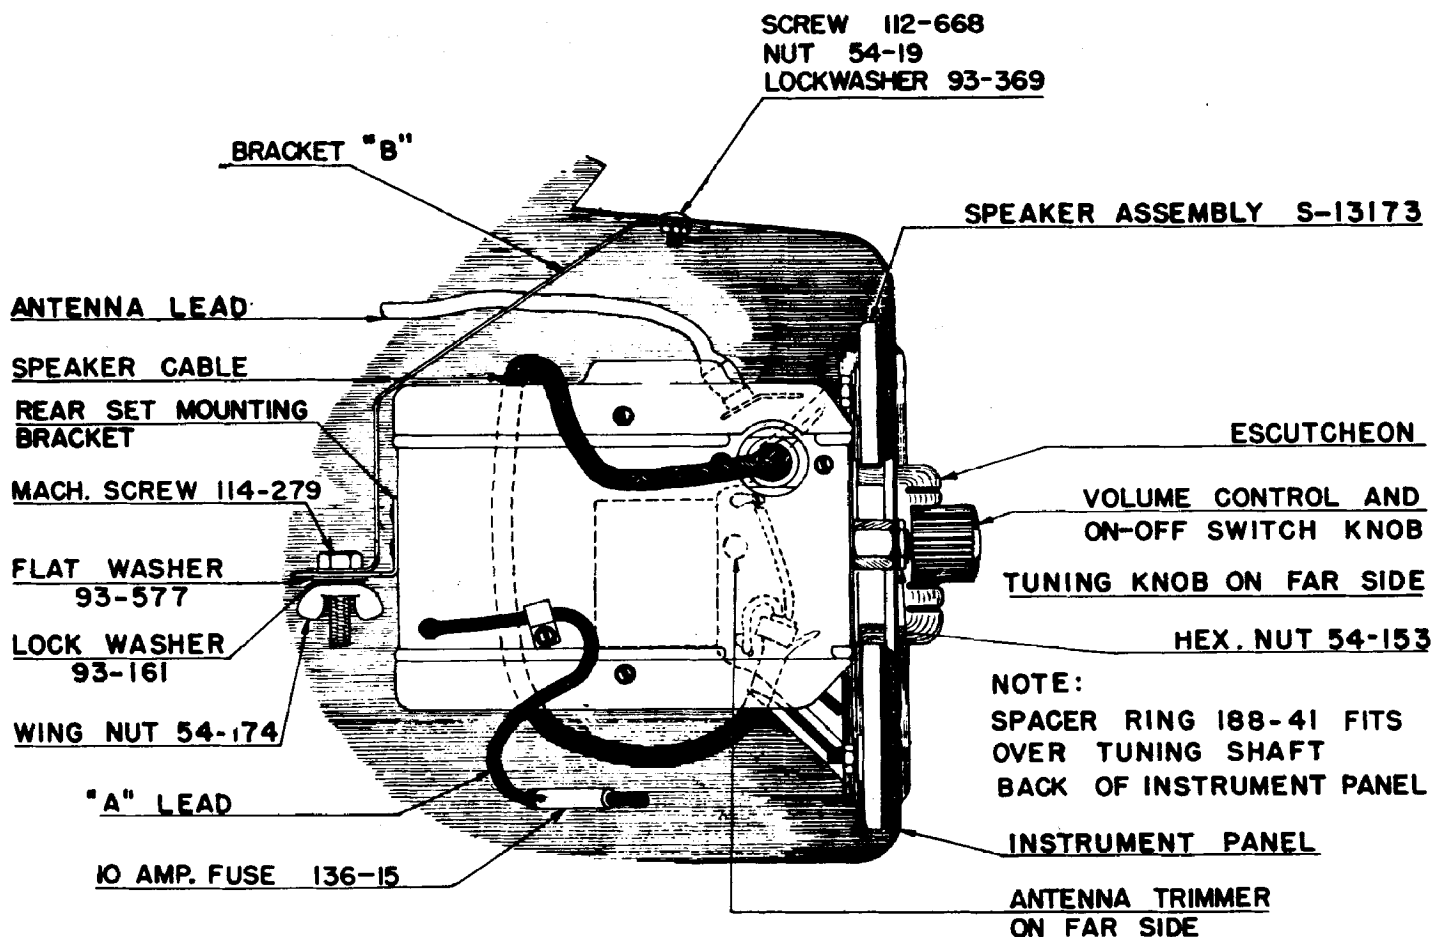
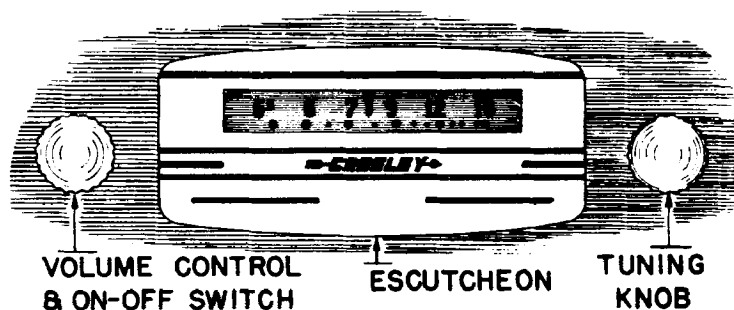

Fig. 1. Installation
Fig. 2. Front View
2. Turn the tone arm set down adjustment screw (see Fig. 2) as far as it will go in the clockwise direction.
6. Adjust the tone arm set down adjustment screw (see Fig. 2) for proper landing of the needle.
Figures 1 and 2, illustrating the installed receiver, the escutcheon plate, and the control knobs, are given here to assist in the removal and reinstallation of this receiver when service is necessary.
To turn the receiver on, turn the volume control knob to the right until it clicks and the dial is illuminated. Allow the receiver to reach operating temperature. (Approximately 20 seconds.) To increase the volume, continue to rotate this knob to the right. To turn the receiver off turn the volume control knob to the left until it clicks. (Fig. 2.)
Turn the tuning knob (Fig. 1) to tune in the desired station. Tune to the exact frequency to prevent distortion. The pointer in front of the illuminated dial scale indicates the frequency to which the receiver is tuned. (Fig. 2.)